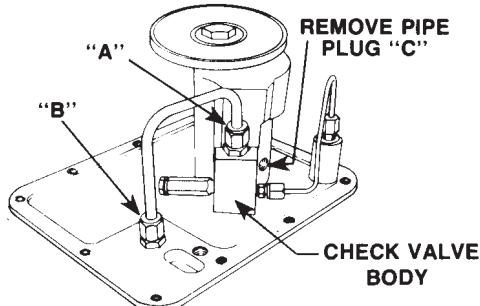

FIGURE 1
4. Disconnect fittings "A" and "B" and remove the $\frac{3}{8}$ " tube assembly and adapter. See Figure 1.
7. Remove the pipe plug (Figure 1, Item "C") from the pump body.